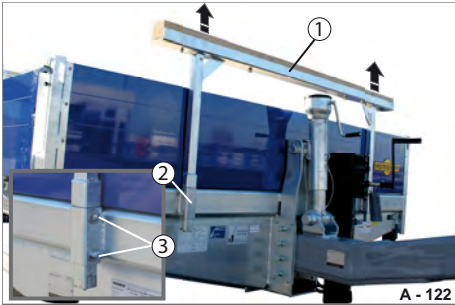

Fig. 174 Unlocking the support frame
- Release the bolt connection (Fig. 174/3) on both post pockets (Fig. 174/2).
- Pull the support frame (Fig. 174/1) slowly and simultaneously out of the post pockets.